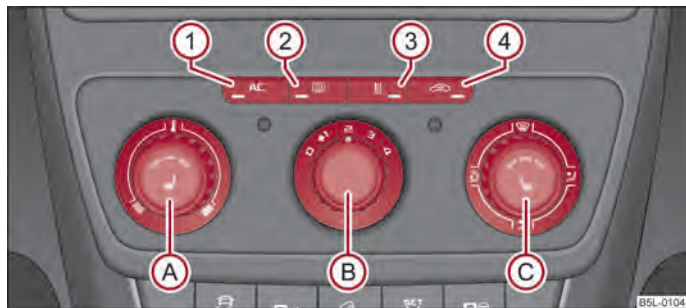

Fig. 91 The air conditioning system: Control elements
The cooling only operates if button **(AC)** $\Rightarrow$ fig. 91 **(1)** is pressed, and the following conditions are met:
- Turn the control dial **(A)** $\Rightarrow$ fig. 91 to the right in order to increase the temperature.
- Press the button **(AC)** **(1)** $\Rightarrow$ fig. 91. The warning light lights up in the button.
- Controls Ⓐ, Ⓑ, Ⓒ and the ① button and ④ ⇒ fig. 91.
- Press the button ④ ⇒ fig. 91 the warning light lights up in the button.
The recirculated air mode is switched off automatically if the air distribution control Ⓒ is in position ⇒ fig. 91. You can also switch recirculated air mode on again from this setting by repeatedly pressing pushbutton .